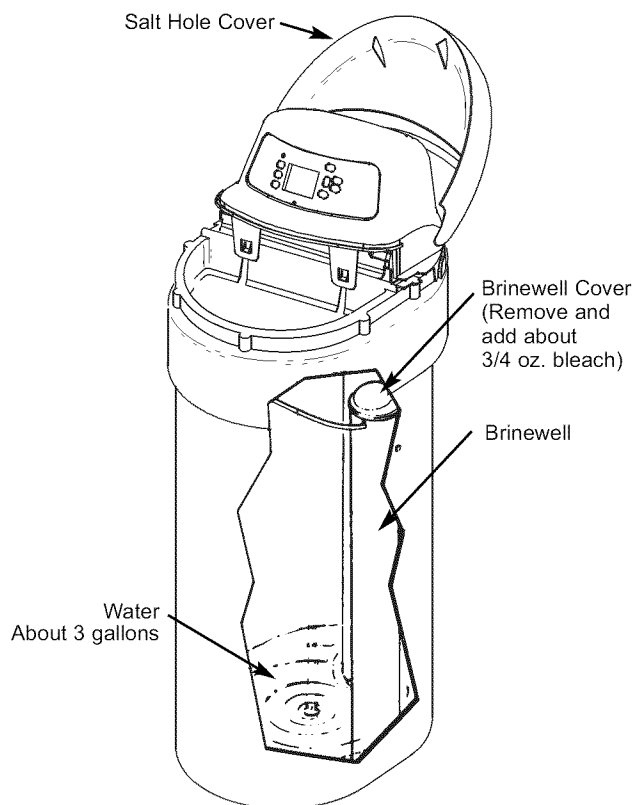

FIG. 30
3. Remove the brine well cover (Fig. 30) and pour about 3/4 ounce, or 1 to 2 tablespoons, of common 5.25%1, *unscented*, household bleach (Clorox, Linco, BoPeep, White Sail, Eagle, etc.) in the softener brinewell. Replace the brinewell cover.